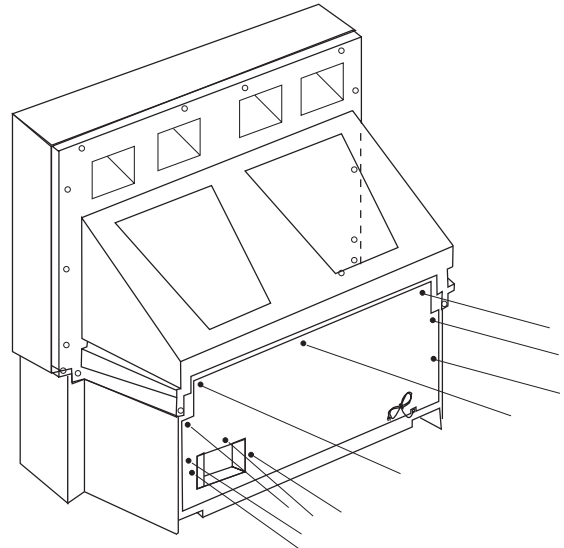

Figure 9. Lower Cabinet Back Removal
Cabinet Back Lower Removal (Figure 9)
1. Remove (7) hex screws around its perimeter marked with arrows. (See Figure 9 for screw location).
2. Remove (3) screws from around the A/V terminal board (marked with arrows).
2. Remove the cabinet back lower. (Figure 9)